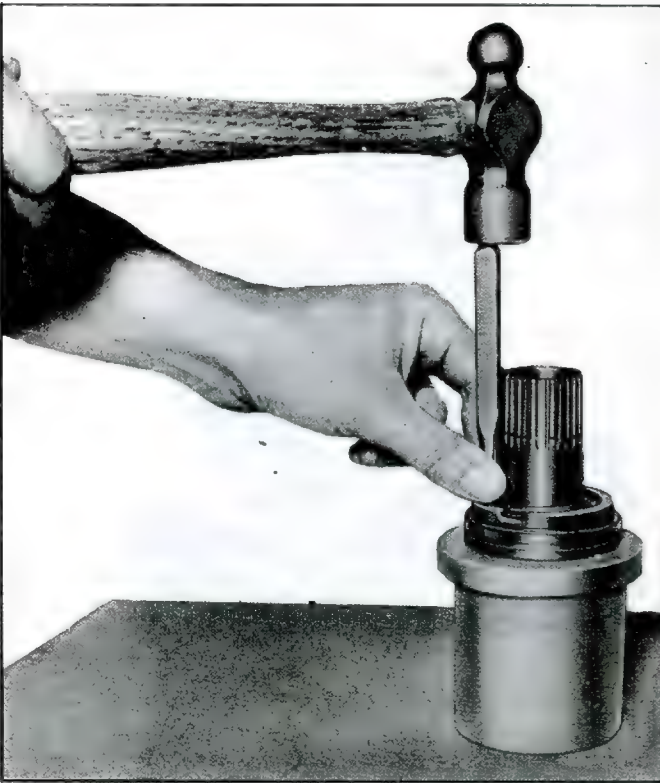

Fig. 39—Removing Pinion Rear Oil Seal from Stator Shaft
1. Drive out old seal with a pin punch inserted through access holes in stator shaft (fig. 39).